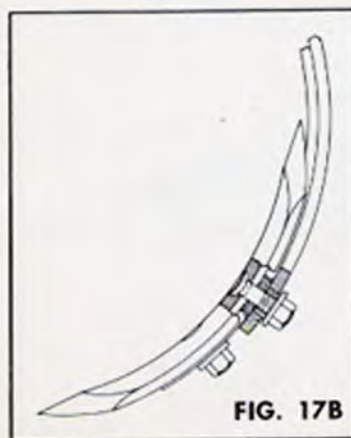

FIG. 17B
4. Assemble the reversible shovels, Fig. 17B to the spring tine. Place the long bolt through the top hole. The spacer must be used in the slotted hole of the helper spring to permit flexibility of the spring tine assembly.